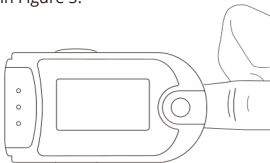

Figure 5 Put finger in position
- % The finger should be placed correctly (see Attached figure 5), as improper installation or improper contact position for sensor will influence the measurement.
- 2) Open the clip as shown in Figure 5.